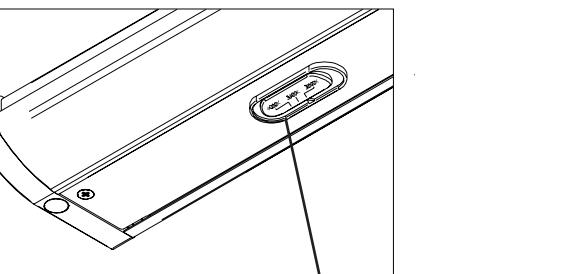

Figure 6
1. Locate CCT Switch- **See Fig 6.** (Default color temperature setting is 3000K).
1. Ubique el interruptor del CCT. **Ver Fig 6** (Lac de temperatura de color predeterminada es 3000K).